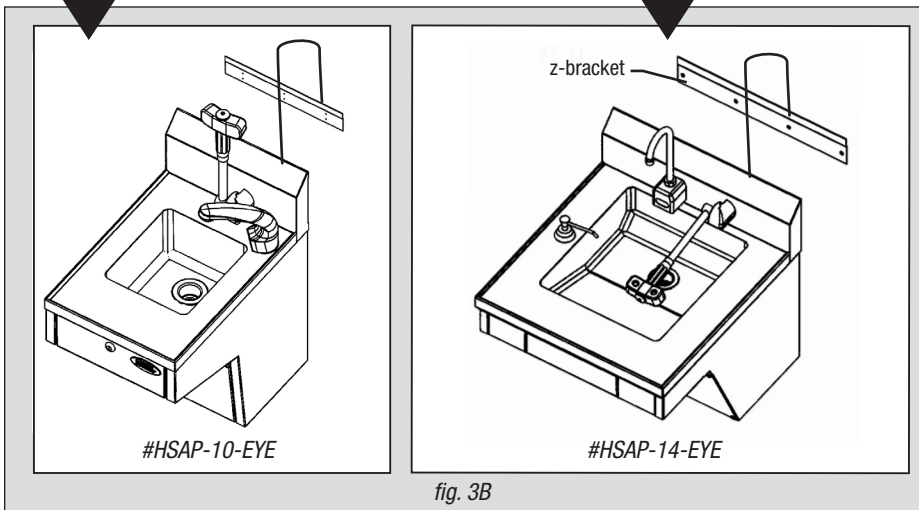

fig. 3B
- B. Set faucet/base assembly onto z-bracket (refer to fig. 3B). Press sink down firmly to seat sink onto z-bracket. Top of sink backsplash should measure approximately 40" from floor.